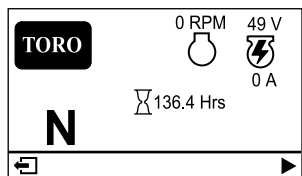

Figure 21
- **Main information screen (Figure 21):** shows current machine information while the key is in the ON position.